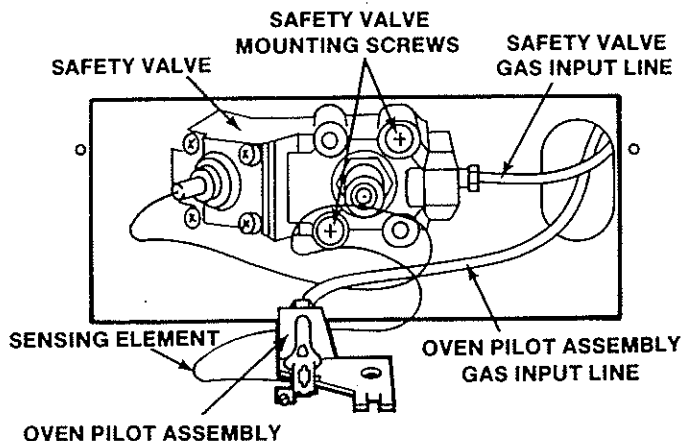

Figure 9
- remove safety valve's sensing element (capillary tube) from oven pilot assembly. The element is held in place by a single screw on the side of the oven pilot assembly, (Figure 9).
- remove mounting screws retaining safety valve to the rear panel of oven unit, (Figure 9).